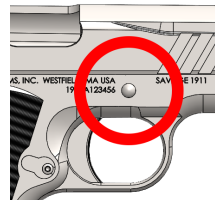

Figure 29
- From the ejection port side of the pistol, press the slide stop pin into the frame of the pistol – Figure 29. This will start to push the slide stop out of pistol frame.